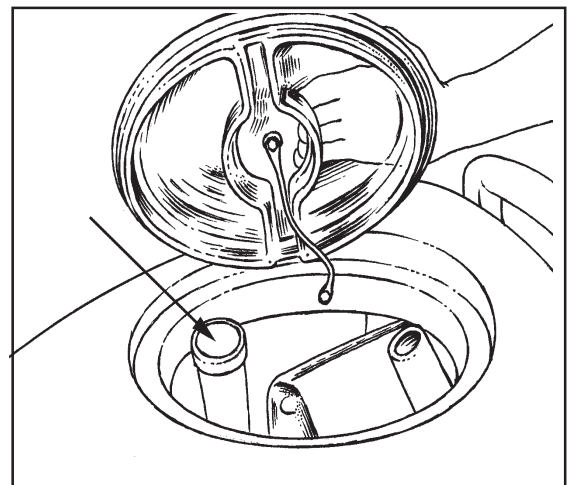

Figure 24
4. Make sure the Screen filter over the vacuum motor is clean and in position. See figure 24.